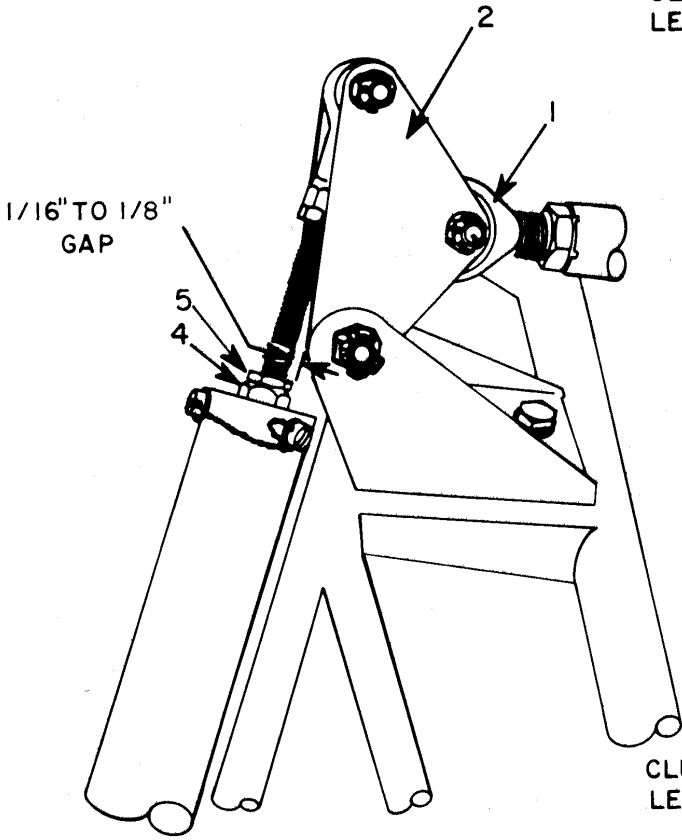
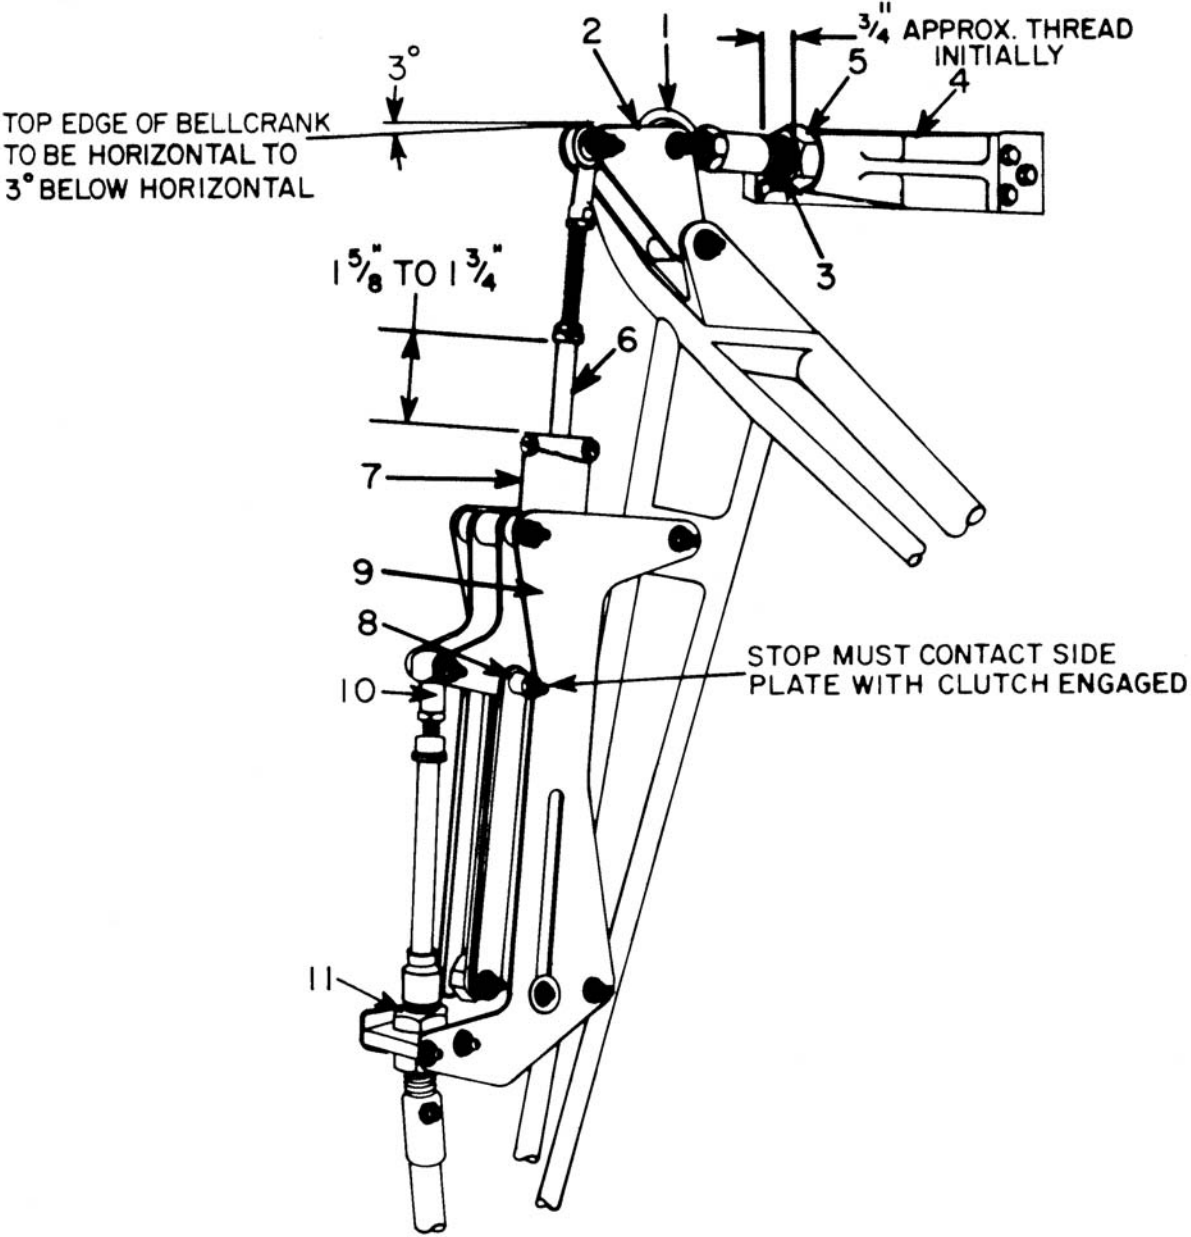

FIGURE 1
FIGURE 3
- (b) Viewing the belt tension mechanism, check that the overcenter stop (Figure 3, Item 8) is tightly against side plates (Figure 3, item 9). This will indicate if the mechanism is properly locked overcenter.
- (c) View bellcrank (Figure 3, Item 2). With clutch engaged, the top edge of the bellcrank should be horizontal (i.e., parallel) to lower aft pylon cross tube. Tolerance is horizontal to 3° below horizontal.
- (d) View spring capsule piston (Figure 3, Item 6). With clutch engaged, the proper extension of piston (6) is 1 5/8 to 1 3/4 inches from top of spring capsule to bottom of piston nut.
1. Disconnect idler rod end (1) from bellcrank (2). (Ref. Figure 1.)
1. Check the following items before proceeding with clutch rigging. (Ref. Figure 3.)
- a. Rod end (10) must be turned on clutch cable until it bottoms out. Back it off 1/2 turn for alignment and secure with jam nut.
- b. Clutch cable is to have one thread exposed above jam nut (11).
- c. Engage clutch lever and check that belt tension assembly is locked over center with stops (8) contacting side plates (9).
C. Spring Capsule Clearance Adjustment (Ref. Figure 1)
- 1. Connect idler rod end (1) to bellcrank (2).
- 2. Loosen jam nut (5) and turn piston (4) in or out of spring capsule to obtain 1/16 to 1/8 inch clearance between threaded shaft and lower pivot spacer of bellcrank (2). (Ref. Figure 1.)
- 4. Lock jam nut (5) against piston (4).
- 2. Disconnect rod end (1) from bellcrank (2). (Ref. Figure 3.)
- 3. Loosen jam nut (5) and adjust shaft (3) in or out of idler yoke (4) until approximately 3/4 inch of threads are exposed beyond jam nut (5) as a preliminary starting point.
- 4. Connect rod end (1) to bellcrank (2) and engage clutch.
- 5. With clutch engaged check the following: (Ref. Figure 3.)
6. Adjust shaft (3) to obtain the proper bellcrank position. (Ref. Figure 3.)
- b. Disconnect rod end (1) from bellcrank (2).
- c. Adjust shaft (3) in or out of yoke (4).
- d. Connect rod end (1) to bellcrank (2). Engage clutch and re-check bellcrank position.
- f. Secure jam nut (5) against yoke (4).
- g. Secure rod end (1) to bellcrank (2).
7. Engage clutch and check the 1 5/8" to 1 3/4" measurement of exposed piston (6). Adjust as follows:
- a. Loosen jam nut on top of piston (6).
- b. Turn piston in or out of spring capsule to obtain 1 5/8" to 1 3/4" measurement from top of spring capsule to bottom of piston nut. (Ref. Figure 3.)
NOTE: With clutch engaged, re-check that belt tension mechanism is locked in overcenter position. (Ref. Figure 3.) Stops (8) must contact side plates (9).